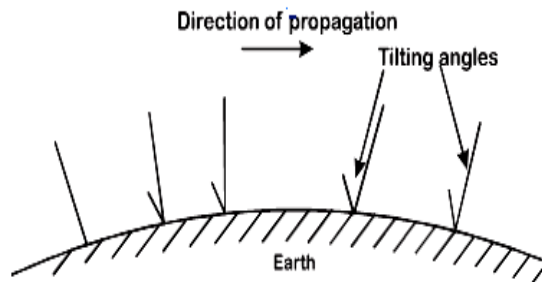

Fig. 1.37 Ground wave propagation
- ❖ The surface wave induces currents in the ground over which it passes and thus loses some energy by absorption. Because of diffraction the wave front gradually tilts over as shown in fig 1.37.